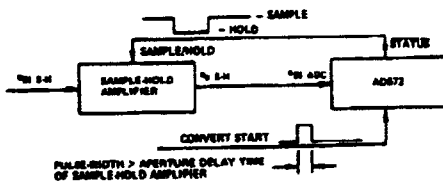
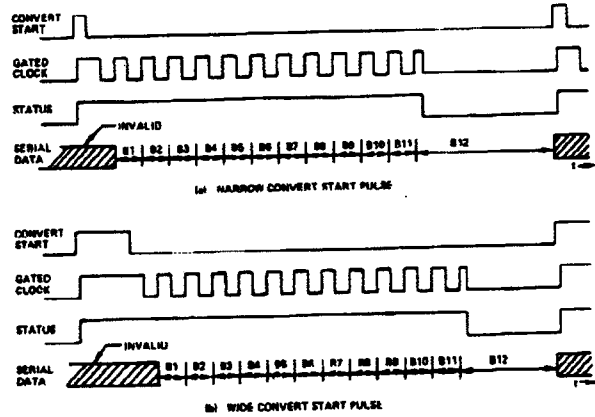

Figure 8. Sample-Hold Amplifier - AD572 Interconnections
Figure 9. Effect of Convert Start Pulse-Width on Timing
When the analog signal source has a low impedance (as would be the case if it were the output of the sample-hold amplifier of Figure 8), it can be connected to either of the direct input pins 24 and 25. The buffer follower is used in the application as shown in Figure 6, in which the analog input to the converter comes directly from the output of a FET analog multiplexer. The selected channel has a typical  $r_{on} = 200\ \Omega$  which has a  $3000\ \text{ppm}/^\circ\text{C}$  tempco. If the multiplexer output were connected to the 0 to +10 V direct input Pin 24 (5 k $\Omega$  input impedance, nominal), this  $r_{on}$  would introduce a 4% gain scale-factor loading error, which is well beyond the normal  $\pm 0.25\%$  FSR external gain adjustment range, and a tempco of approximately  $3000\ \text{ppm}/^\circ\text{C} \times 4\% = 120\ \text{ppm}/^\circ\text{C}$ . By connecting the buffer between the multiplexer output and direct input, these errors are eliminated. The buffer amplifier input bias current (50 nA typical) must flow through the analog signal source, however. This limits the upper practical source impedance to several kilohms so that the offset voltage  $I_{BIAS} R_{SOURCE}$  can be kept negligible, even though the buffer amplifier dynamic input impedance  $\geq 100\ \text{M}\Omega$ . The buffer amplifier has a 2  $\mu\text{s}$  settling
**Sample-Hold Amplifier:** A sample-hold amplifier (SHA) is normally connected between the analog signal source and AD572 analog input when the analog signal can change by more than 1/2 LSB during conversion. Typical SHA-AD572 interconnections are shown in Figure 8. The STATUS output drives the SHA SAMPLE/HOLD input directly. On receipt of a CONVERT START pulse, the STATUS flag changes from "1" to "0" causing SHA mode to change from SAMPLE to HOLD. The SHA output voltage  $e_{o, S-H}$  is then held constant at the value existing just prior to application of the HOLD command for the complete conversion period. At the end of conversion, the STATUS flag returns to "1," restoring the SHA mode to SAMPLE,  $e_{o, S-H}$  again tracks the analog signal voltage  $e_{in, S-H}$  (after the signal acquisition transient has subsided).
Note that the internal (gated) clock is inhibited for the duration of the CONVERT START pulse and does not start running until the termination of this pulse (see timing). This can be used to simplify control signal timing requirements. In the circuit of Figure 8, for example, the CONVERT START signal pulse-width can be extended beyond the aperture delay time of the SHA to assure that  $e_{o, S-H}$  is in steady state before conversion is initiated. This assured accurate conversion without requiring additional delay timing circuitry. The effect of varying the CONVERT START pulse width on the conversion timing cycle is shown in Figure 9.